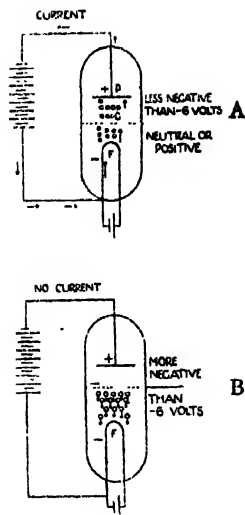

FIG. 319.—Action of triode valve, electrons represented as small circles.
The metal filament is coated with some material which emits electrons when hot, usually calcium or barium oxide, and it is kept hot by a small current (from the battery B). The plate and filament are connected to the terminals of a high tension battery. Suppose the grid is electrically neutral (Fig. 319, A)—not connected to anything. The positive plate will attract the negative electrons and they will flow from the filament to the plate. In other words a current will flow through the circuit, P, G, F.
Suppose, however, the grid is given a small negative electrical charge (Fig. 319, B). It will repel the electrons which try to get through its meshes and since these are very near the grid and a very long way from the plate, a small negative charge on the grid will repel them much more than the big positive charge on the plate will attract them. So, if the grid has a negative potential of about 6 volts, no current flows; if it is neutral, current flows easily. If it is positive, current flows still more easily for the grid charge hauls the negative electrons through the meshes. Once they are through, the positive plate pulls them in. The point, then, is that *a little change in the charge on the grid of a valve makes a big change in the current that flows through it.*
positive, but not if it is more negative than, say, 6 volts (see Fig. 319). But as soon as current flows in the inductance coil I, it induces a current in the opposite direction in the coil I'. This makes the grid negative and stops the first current. But stopping the first current in I induces a new current in the other direction through I'. This makes the grid positive and starts a new current in I which again induces a current the original direction in I'. This process will continue *ad infinitum*, the current of electrons in I' being reversed hundreds of thousands of times a second. The number of times a second the electrons run back and forward in I' depends on the slowing of the current by the inductance itself: but it can be regulated by putting across the circuit a variable condenser (C) which has to be filled and emptied of electrons each time the current changes. By altering the capacity of this condenser, the time of oscillation can be altered. The electrons, running up and down this coil I' and the wires which feed it, would generate electromagnetic waves, though rather feeble ones. In order to radiate electromagnetic waves of considerable power, the coil I' is allowed to induce currents in a *third* coil (A) (Fig. 321), which is connected to earth and to an aerial wire. By altering the length of this coil, it is possible to make the aerial and coil (A) of the right length for the free electrons in them to surge from end to end in *time* with the reversing current in the coil I'. This little current keeps
positive, but not if it is more negative than, say, 6 volts (see Fig. 319). But as soon as current flows in the inductance coil I, it induces a current in the opposite direction in the coil I'. This makes the grid negative and stops the first current. But stopping the first current in I induces a new current in the other direction through I'. This makes the grid